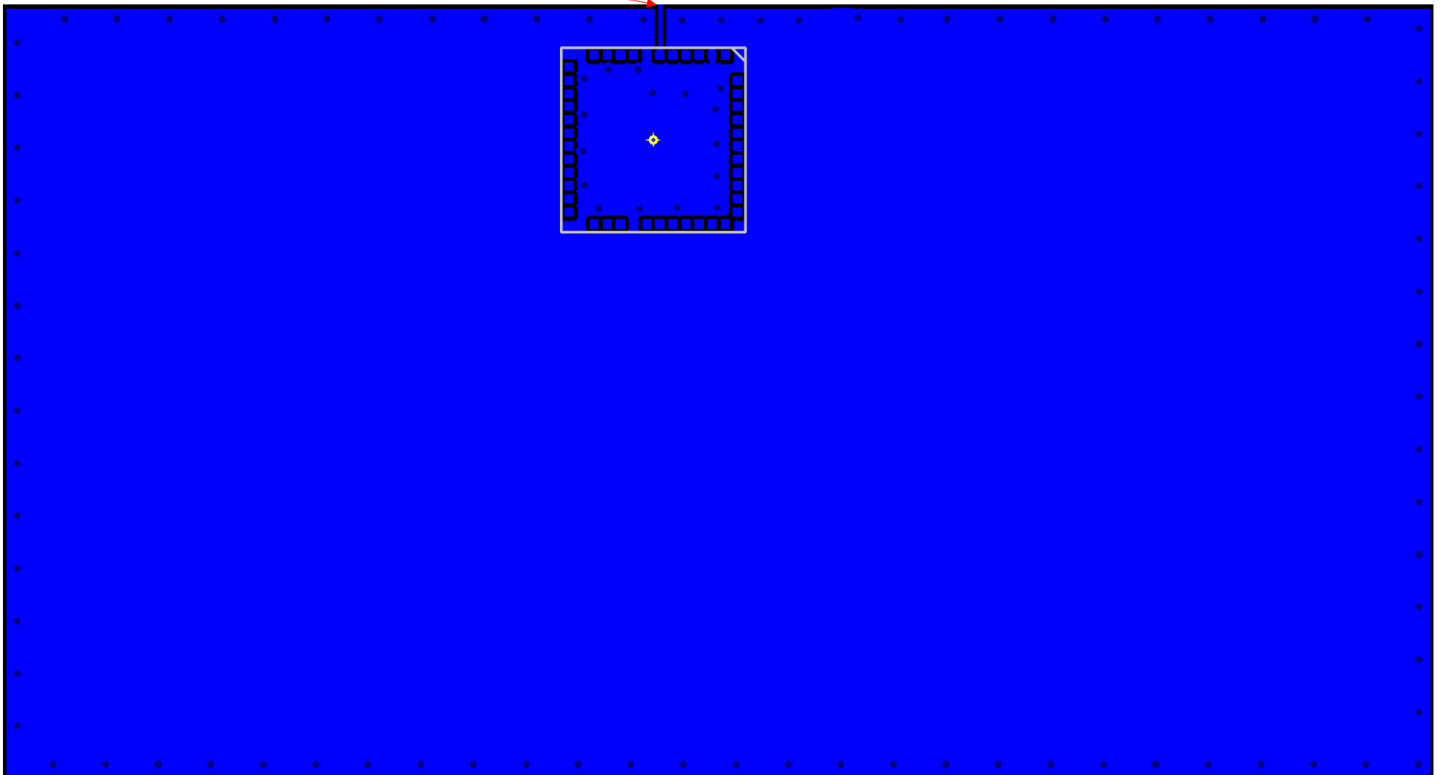

Figure 7.4. Recommended Layout for MGM240S (External Antenna)
- With an external antenna, use a 50 $\Omega$  trace to connect RF signal to the antenna, as it is illustrated in Figure 7.4 Recommended Layout for MGM240S \(External Antenna\) on page 42